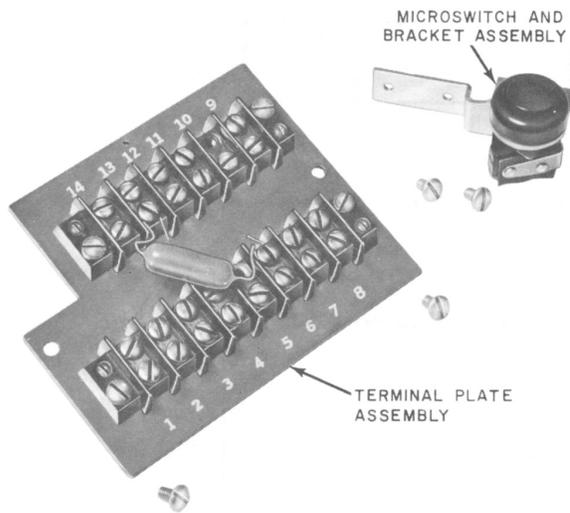

Fig. 8—D-180386 Kit of Parts
3.14 Installation of the microswitch (D-180386 Kit of Parts, Fig. 8) is the same as the circuit lock covered in 3.13.